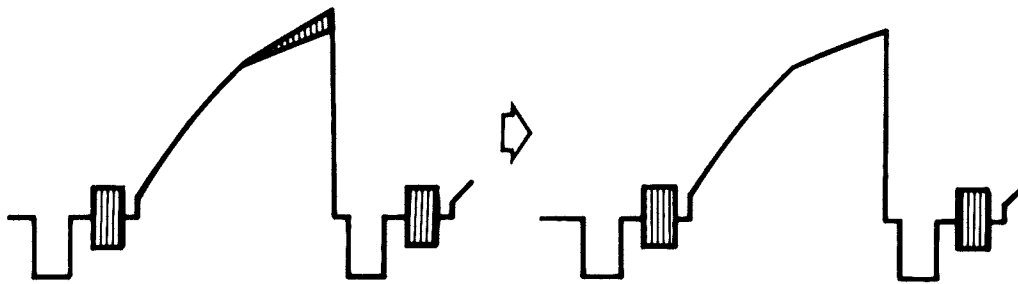

Figure 5-26. R, B Knee and Slope Minimum Carrier Leak Adjustment
STEP 3 Observe ENCR output on waveform monitor and adjust R234, R434 (R, B KNEE), and R237, R437 (R, B SLOPE) for minimum carrier leak (Figure 5-26).